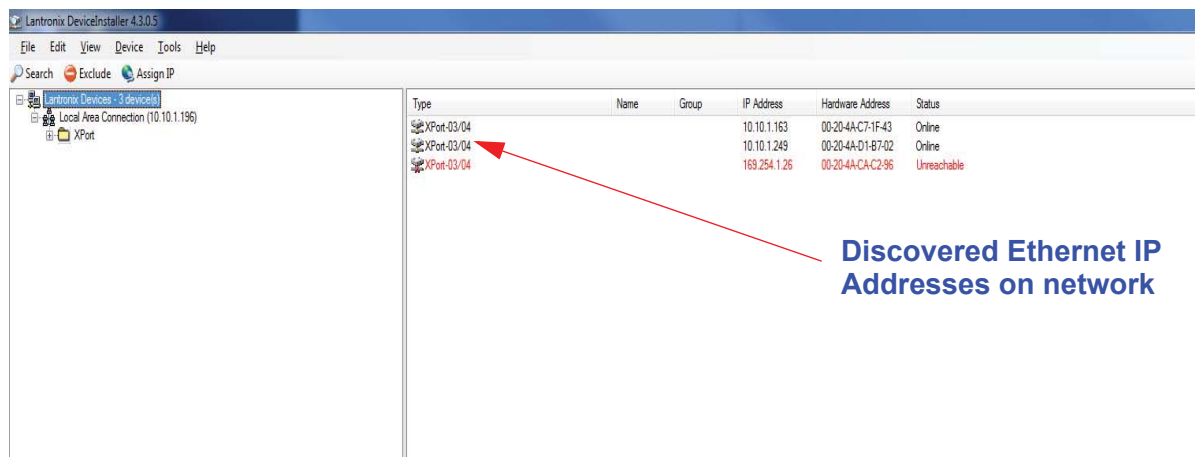

Figure 4-5 Detecting Attached Devices
1. Start the Lantronix DeviceInstaller program. DeviceInstaller will automatically begin searching for attached devices. The **Hardware Address (MAC Address)** for the NC30+ will be displayed as shown in Figure 4-5.